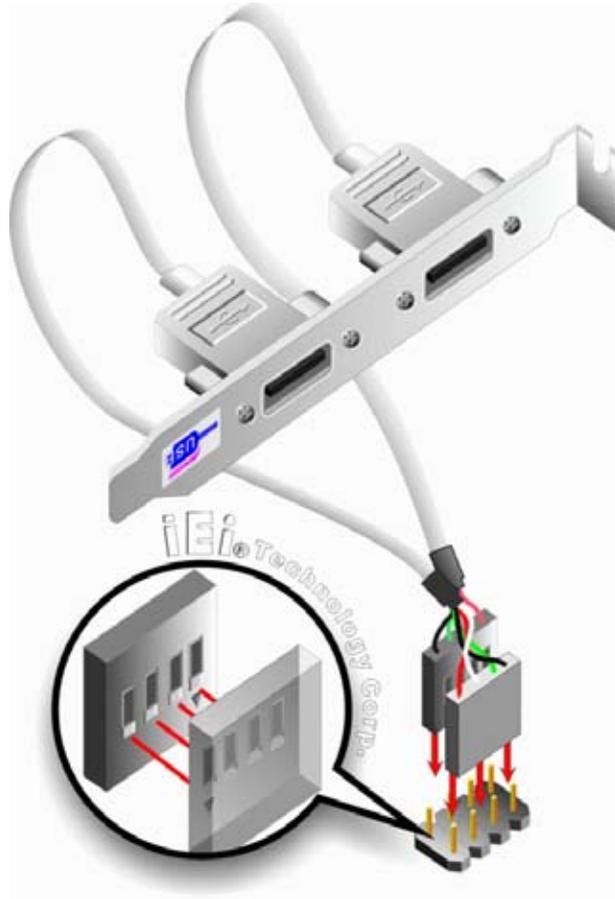

Figure 4-13: Dual USB Cable Connection
Step 12: Insert the cable connectors. Once the cable connectors are properly aligned with the USB connectors on the PCISA-945GSE, connect the cable connectors to the on-board connectors. See Figure 4-13.